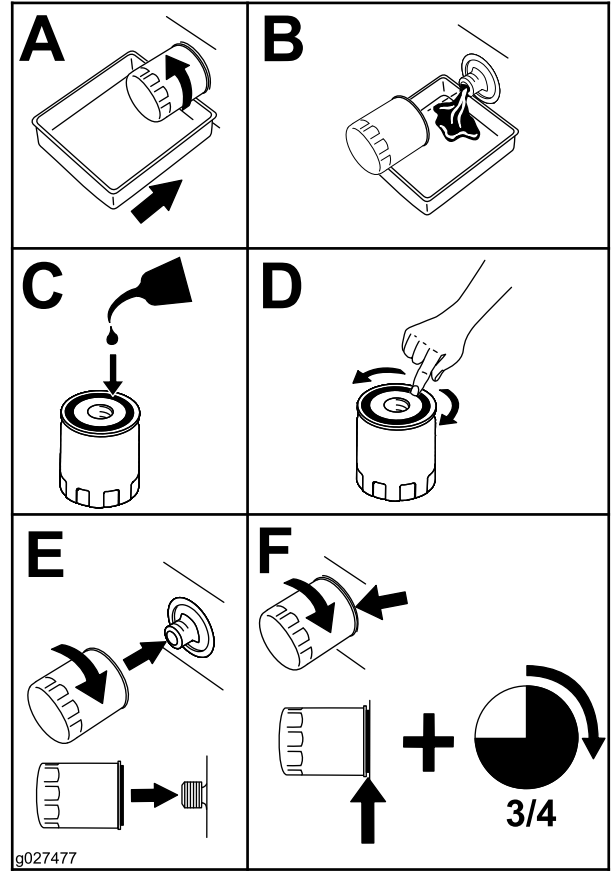

Figure 34
5. Change the engine oil filter (Figure 34).